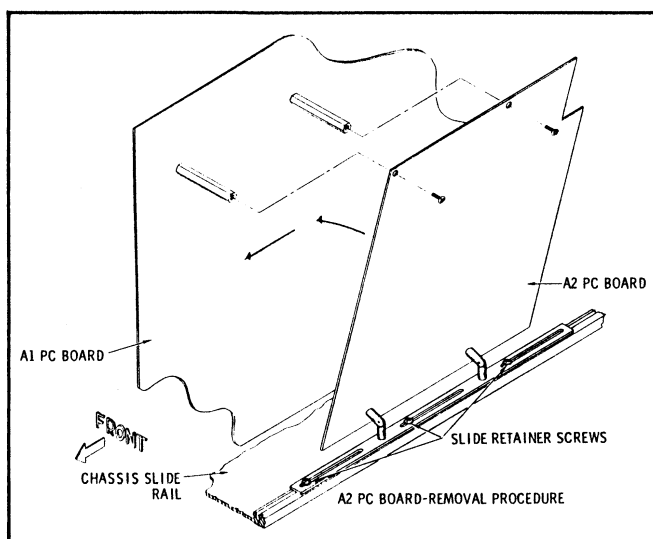

Figure 5-1. A2 Board (Series 70 Models) — Disassembly Diagram
- (1) Disconnect power cord from power source.
- (2) Remove both knobs from SWEEP TIME switch shaft and from MODE switch shaft.
- (3) Remove two board mounting screws.
- (4) Loosen three hinge slide retainer screws.
- (5) Slide board toward rear of instrument to clear SWEEP TIME and MODE switch shafts.
- (6) Rotate board outward to 90° position (See figure 5-1).